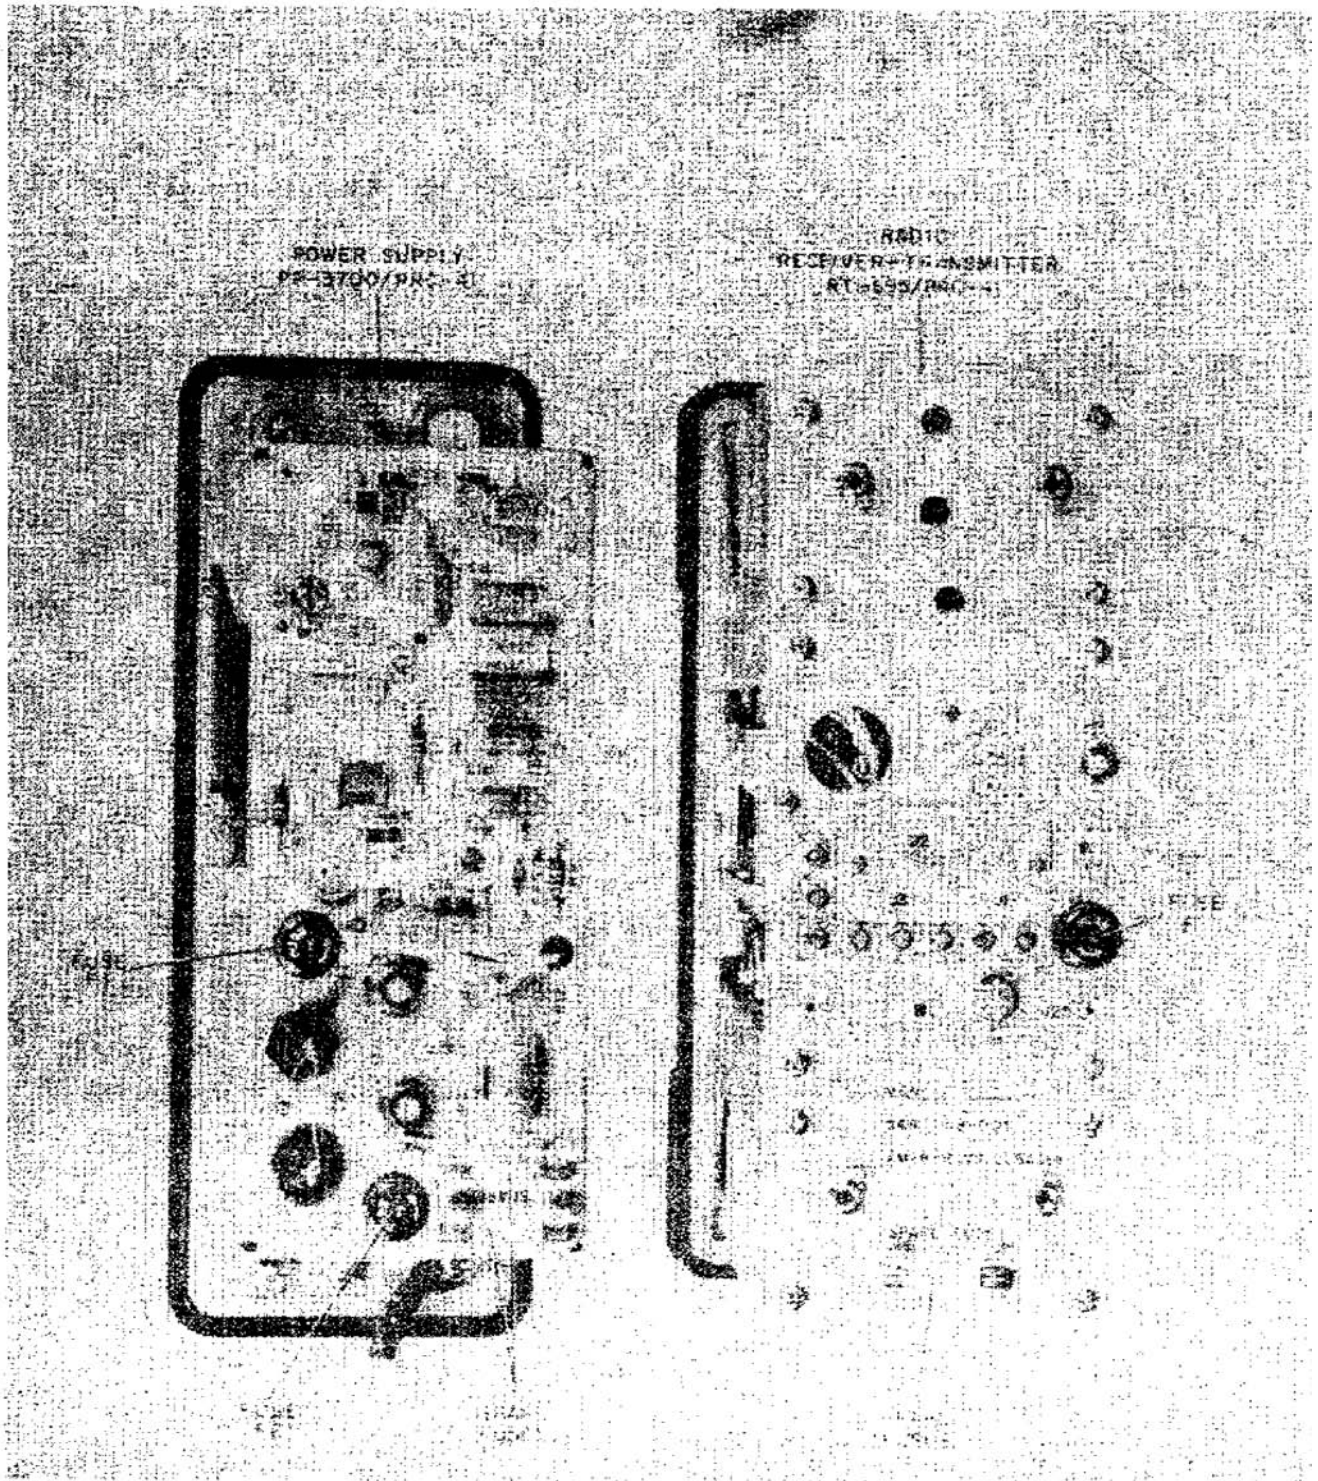

Figure 3-2. Radio Receiver-Transmitter RT-695/PRC-41, and Power Supply PP-3700/PRC-41.
a. **BATTERY OPERATION.**- If the AN/PRC-41 is inoperative and the pilot lamps do not light, check the fuse in the RT-695/PRC-41 (fig. 3-2). If the fuse is good, check the visual charge indicator on the side of the BB-451/U. (Refer to paragraph 2-4a(2).) A full charge is indicated by dark red in the C window and yellow or a clear color in the D window. If the C window shows yellow or clear, or the D window shows other than yellow or clear, the charge is low. If the charge is low, place the BB-451/U on charge.
b. **AC OPERATION.** If the AN/PRC-41 is inoperative and the pilot lamps do not light, check the fuse in the PP-3700/PRC-41 (fig. 3-2) in addition to the one in the RT-695/PRC-41. If the fuses are good, higher echelon repair is required.